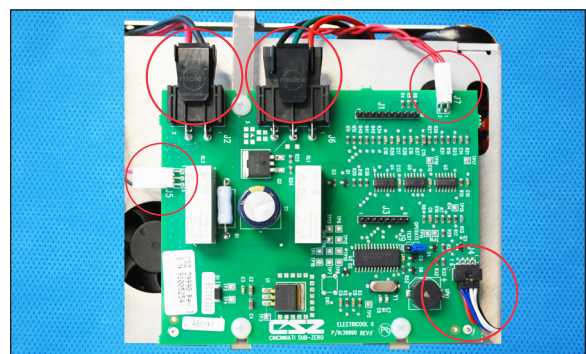

Figure 113 - Step 3 Connect all 5 connectors
3. Connect all five (5) electrical connectors to the control board (Figure 113).